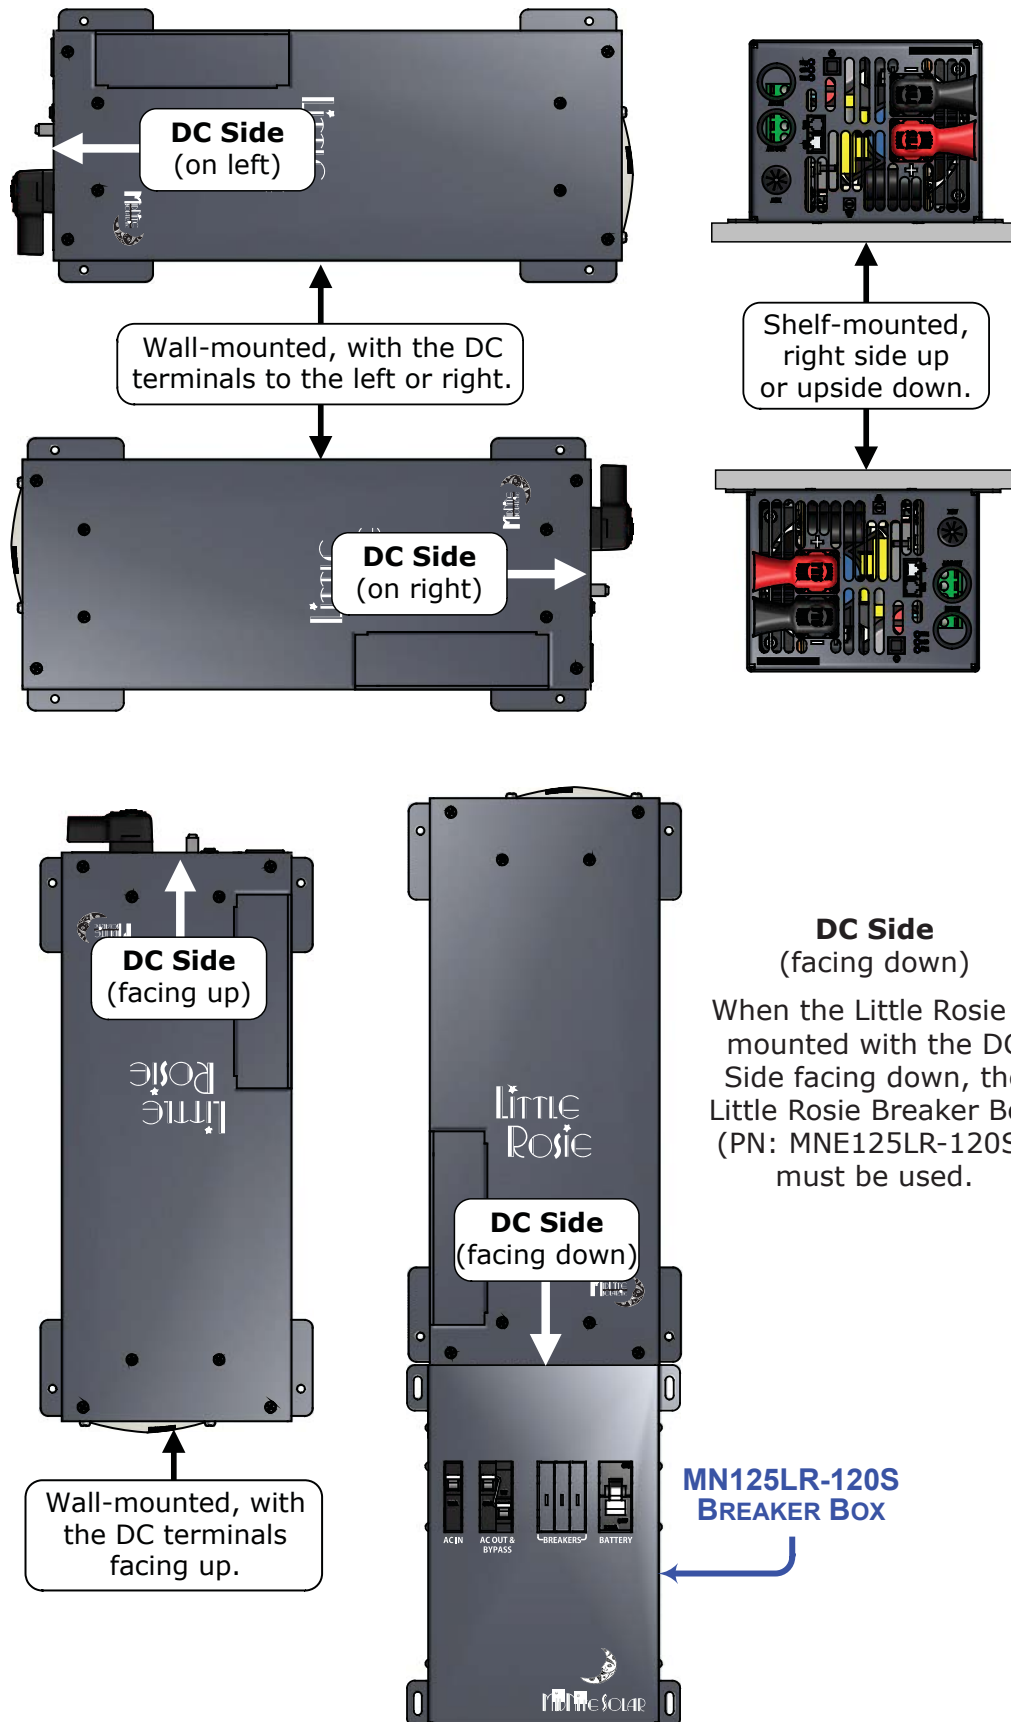

Figure 2-2, Approved Mounting Orientations (MNL4548RE)
- 10 Mounting Flange** – used to secure the inverter to a shelf or wall. See Figure 2-2.
- Regulatory requirements dictate how the Little Rosie can be mounted. Refer to Figure 2-2 to determine how you can mount your Little Rosie inverter.